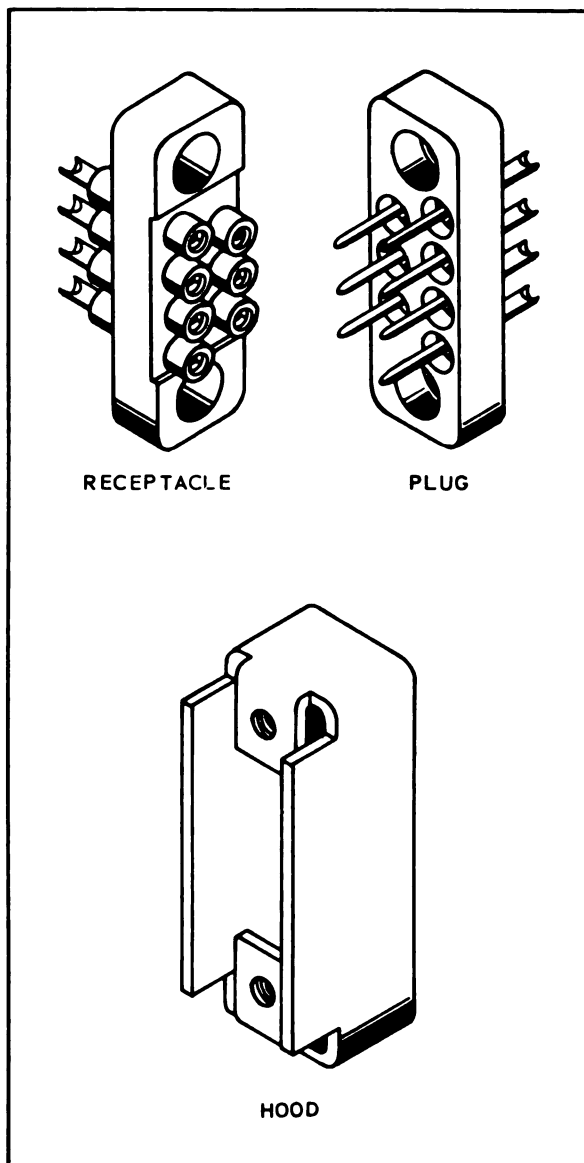

Figure 3-16. Miniature Rectangular Connectors
d. Miniature rectangular connectors (Winchester A and SA series). These are rack-and-panel connectors, having a one piece molded body and pin and socket contacts. These connectors are available with either solder cup contacts or taper pin receptacles. See figure 3-16.